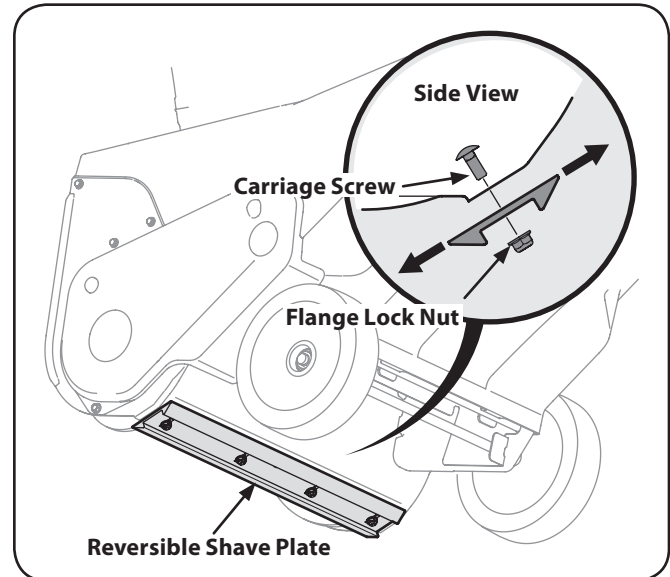

Figure 7-5
3. Remove the four carriage screws and flange lock nuts which attach it to the snow thrower housing. See Fig. 7-5.